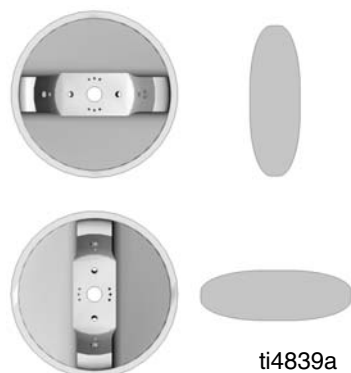

FIG. 2
1. Rotate the air cap to achieve desired spray pattern. See FIG. 2.